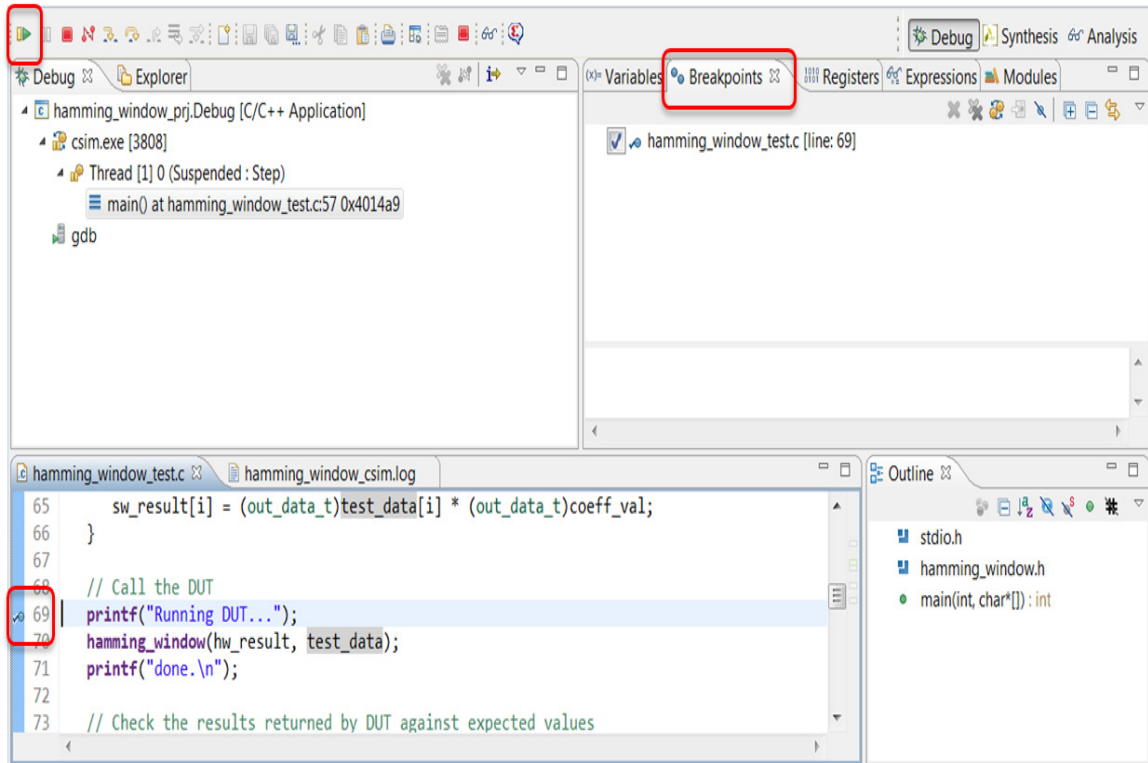

Figure 3-11: Using Breakpoints
8. Place the cursor in the left-hand margin on line 69, right-click with the mouse button and select Toggle Breakpoint. A breakpoint (blue dot) is indicated in the margin, as shown in Figure 3-11.
9. Activate the Breakpoints tab, also shown in Figure 3-11, to confirm there is a breakpoint set at line 69.
10. Click the **Resume** button (highlighted in Figure 3-11) or the F8 key to execute up to the breakpoint.